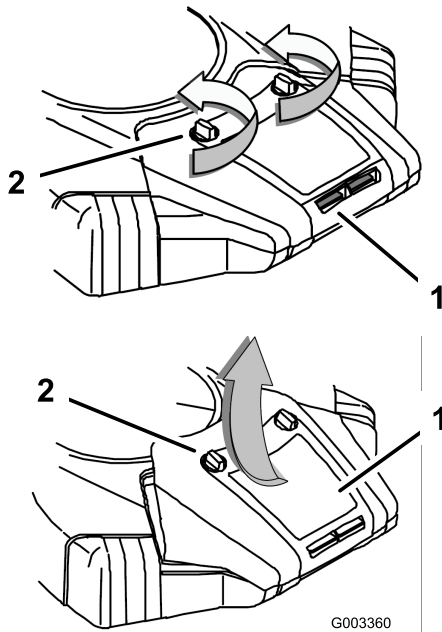

Figure 20
3. Clean around the air cleaner to prevent dirt from getting into the engine and causing damage. Remove the air cleaner cover knobs (Figure 20) and lift up the cover. Remove the air cleaner cover.